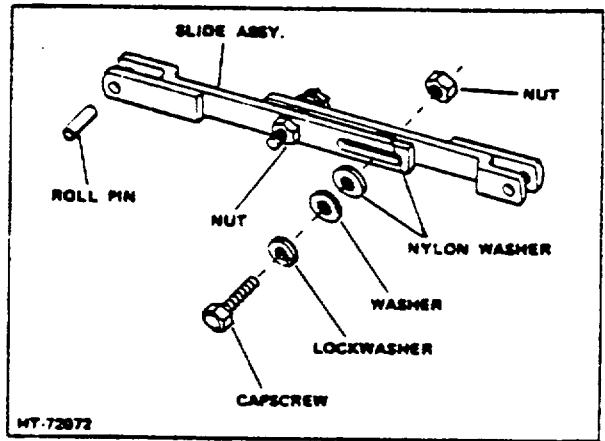

Figure 1-7. Service Brake Self-Adjuster Assembly
1. Assemble components as illustrated in Figure 1-7.